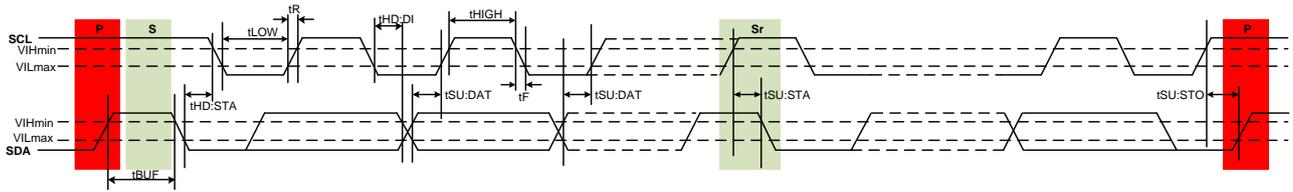

Figure 2 I2C or I3C Basic Bus AC Input Timing Parameter Definition
- See Figure 2 for input timing parameter definition.
- The device must be in configured in I3C Basic mode to guarantee tDOUT value. See Figure 2 I2C or I3C Basic Bus AC Input Timing Parameter Definition
The GD30TP139A device follows the I2C or I3C Basic bus timing requirements. The Figure 2 and Figure 2 I2C or I3C Basic Bus AC Input Timing Parameter Definition show the timing diagram for Data Bus Input and Data Output parameters.